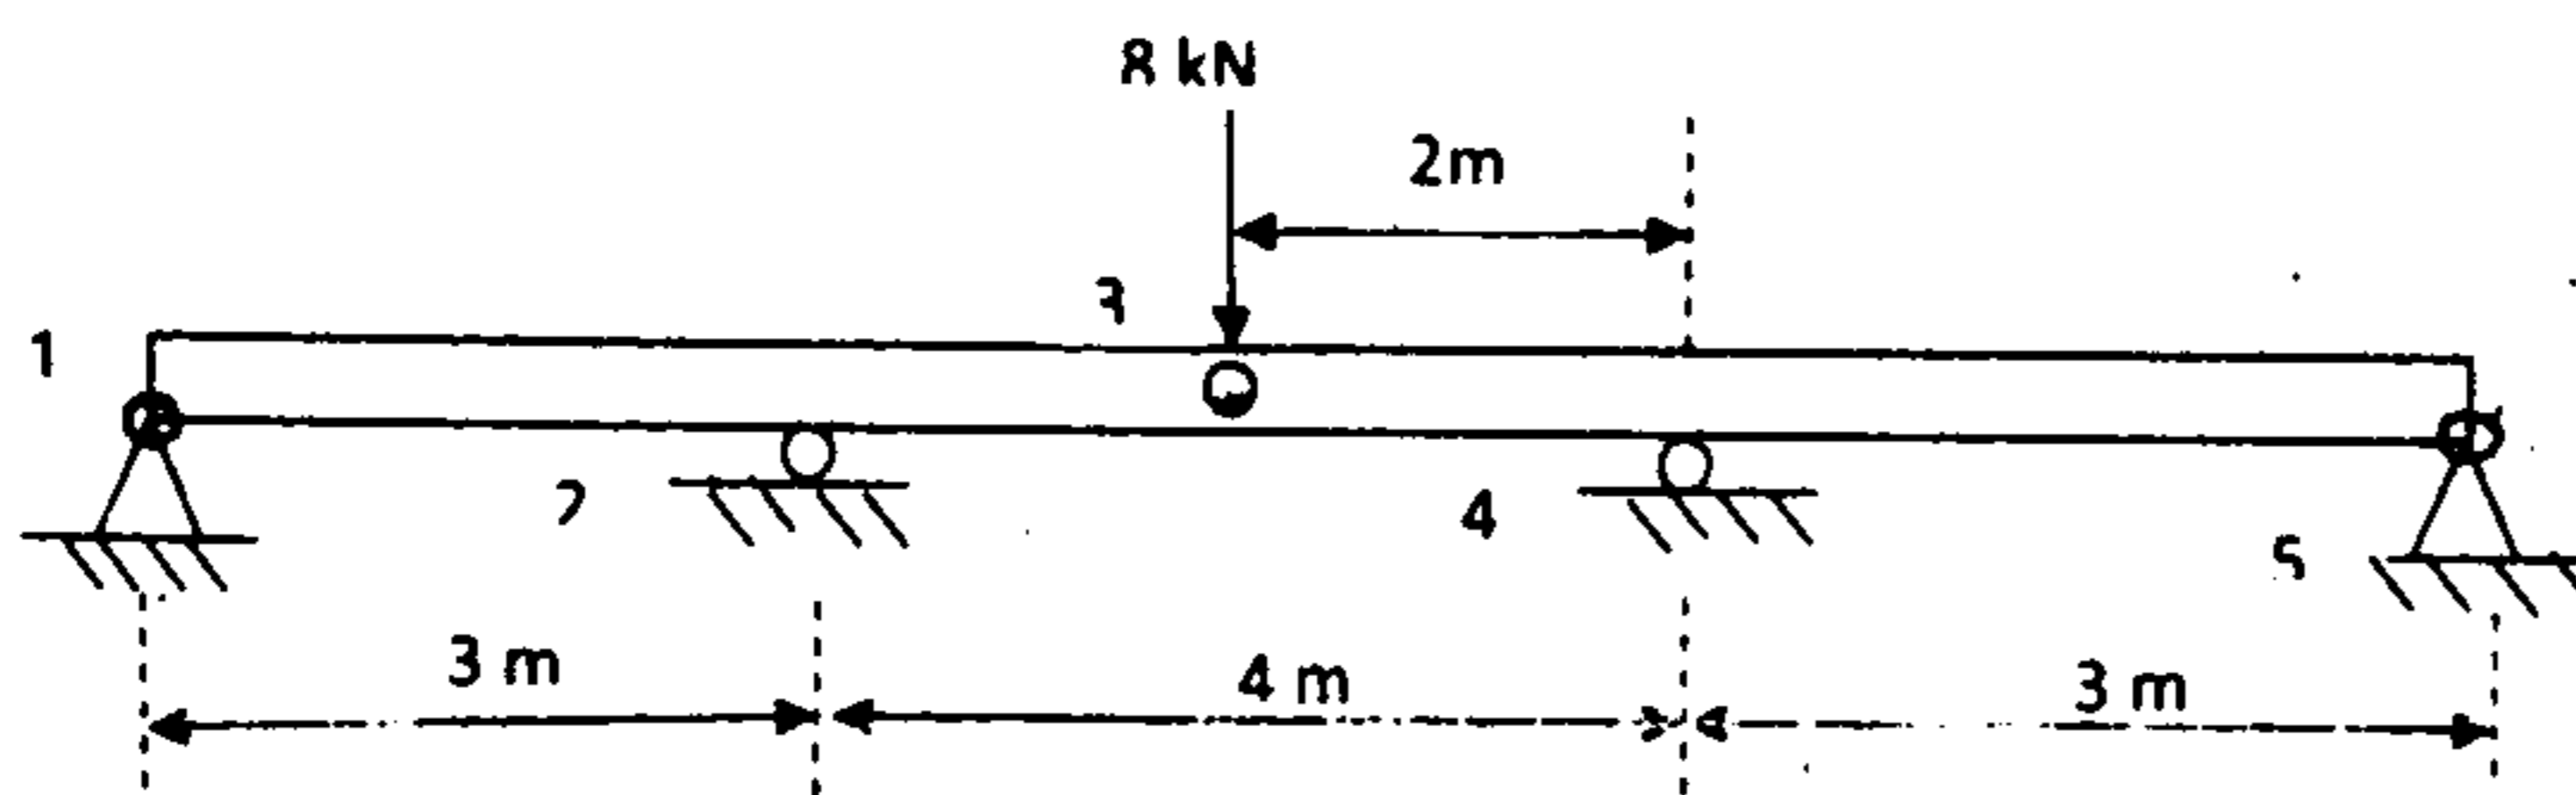

Figure 12(b)
12. (a) Determine the nodal displacement, element stresses and support reactions in the truss element shown in figure 12 (a). Assume that points 1 and 3 are fixed. Take $E = 70 \text{ GPa}$, and $A = 200 \text{ mm}^2$
- (b) For the beam shown in figure 12 (b), determine the displacements and the slopes at the nodes, the forces in each element and the reactions. $E = 200 \text{ GPa}$, $I = 1 \times 10^{-4} \text{ m}^4$.